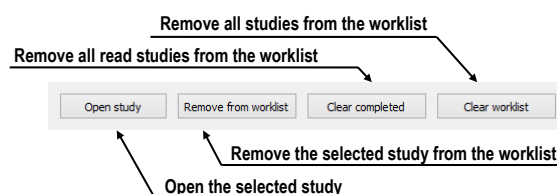

Figure 125 – Manage part of the Patient worklist tab
Your currently defined patient worklist is available at any time on the **Worklist** tab of the **Search studies** dialog. On the tab, you can select from the following operations (see Figure 125) pertaining to the patient worklist studies:
- Removing a selected study from the worklist (by clicking the **Remove** button, see Figure 125).